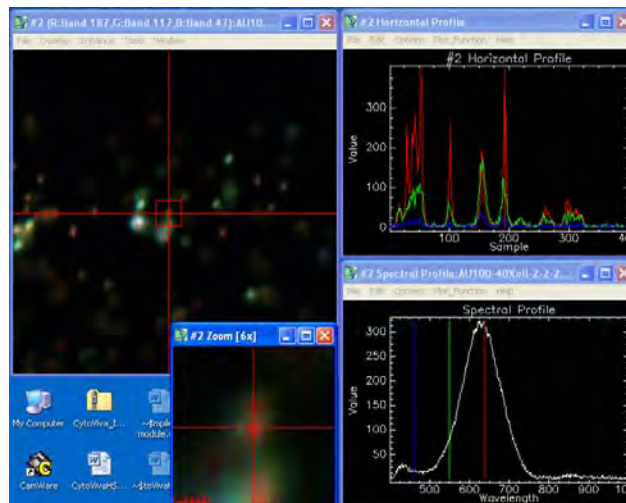

Figure 20. Plot Profiles
- b. The plot will contain the image intensities along the horizontal crosshair (X) or the vertical crosshair (Y), or the Spectral Profile that is contained in the HSI image data pixels at the crosshair intersection (see Figure 20)
4. The spectral curves from the red and green ROI's above are plotted (see Figure 20, left plot)
5. A data legend was added by right clicking in the plot and selecting Plot key (see Figure 20, right plot)